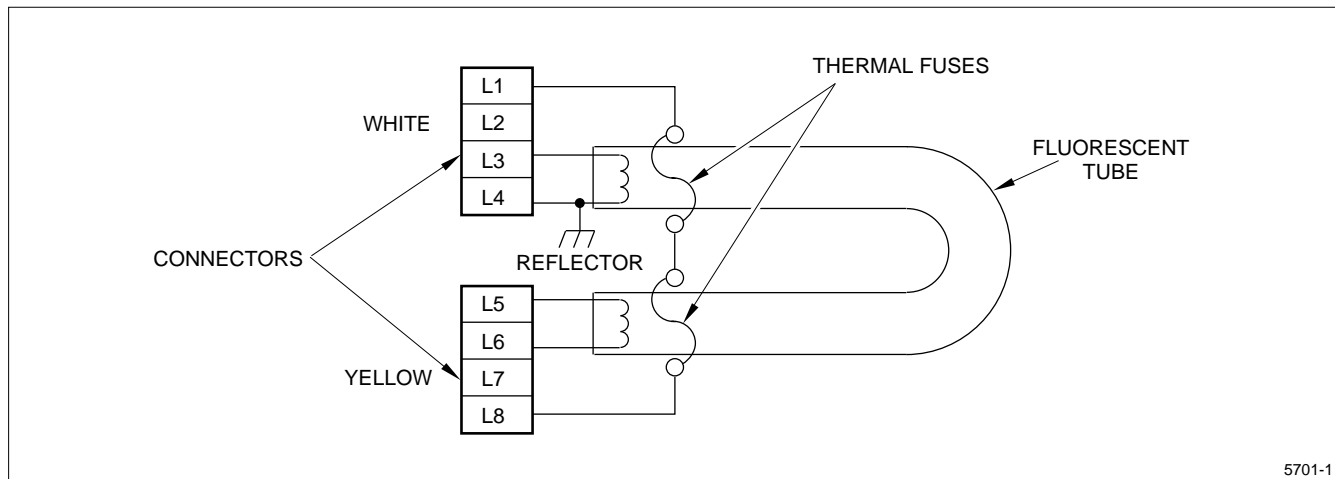

Figure 4. Wiring Diagram of Backlight Unit
2. Should be grounded by the backlight driving DC/AC inverter, since the L4 terminal is connected with the reflector. It will be grounded by the optional DC/AC inverter. For internal electrical connection of backlight unit, see Figure 4.